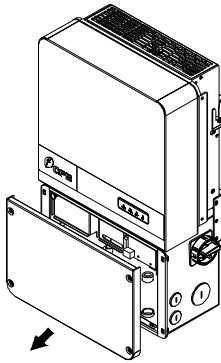

Figure 3-14 Removing the Wiring Box Cover
1. Use a No. 3 Philips head screwdriver to remove the 4 screws on the wiring box and remove the cover. (See Figure 3-14)